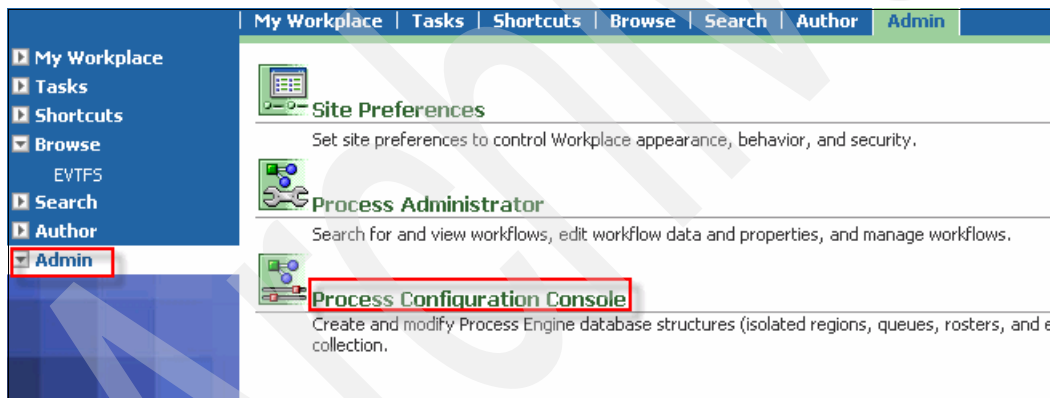

Figure 7-30 Accessing the Process Configuration Console
3. As shown in Figure 7-30, in the left pane, select **Admin** and in the right pane, click **Process Configuration Console**.